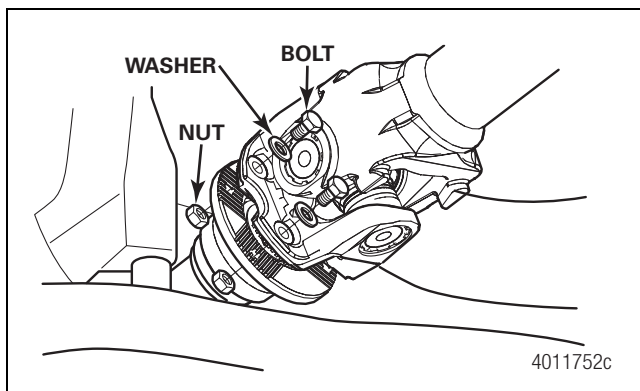

Figure 4.79
3. Install the fasteners and washers to secure the drive flange to the input drive flange. Tighten the fasteners to 133-163 lb-ft (180-220 N•m). Figure 4.79.